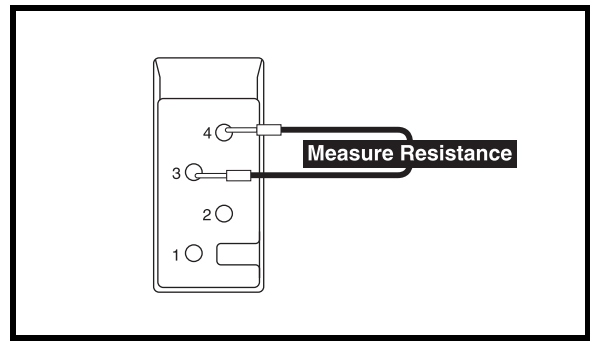

Figure 23. Connector 19a
**See figure 23 and diagram 3.**